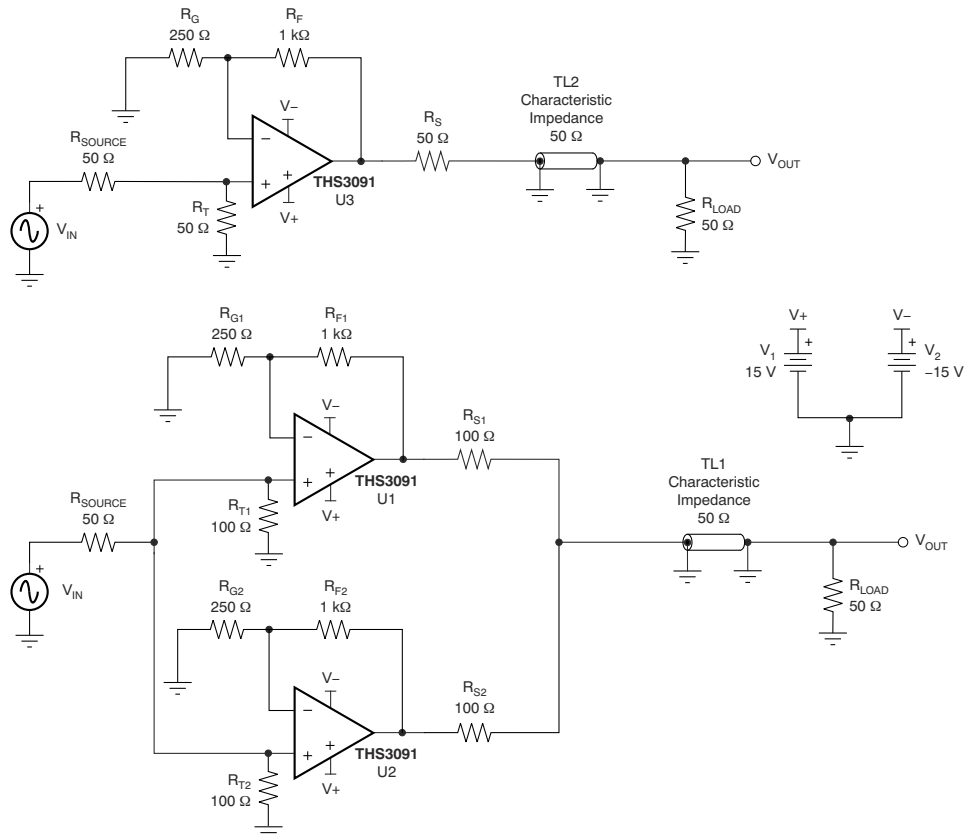
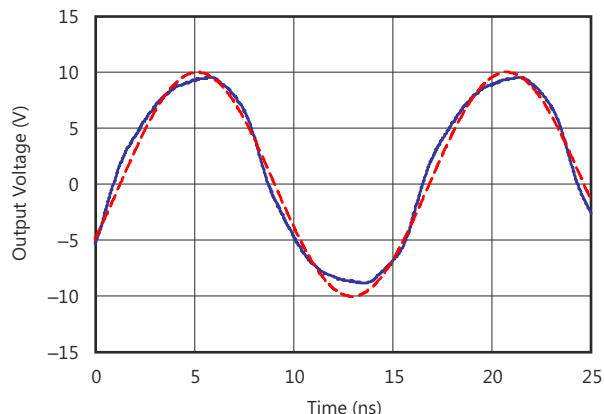
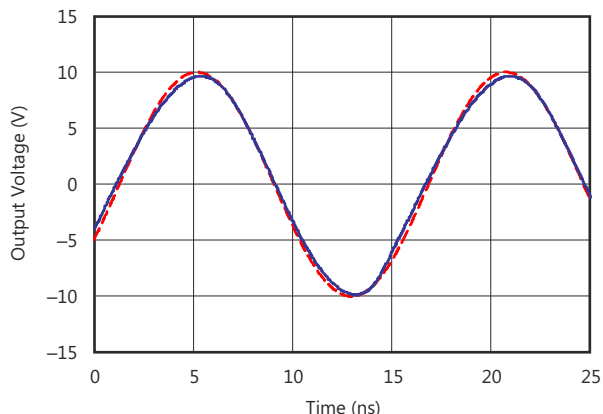

図 9-1. Reference THS3091 and THS3091 Load Sharing Test Configurations
Figure 9-4. 64-MHz Sine Wave Output (Gain = 5 V/V, Signal Amplitude Referred to Amplifier Output), Single THS3091 Circuit Configuration
Figure 9-5. 64-MHz Sine Wave Output (Gain = 5 V/V, Signal Amplitude Referred to Amplifier Output), Two THS3091 Amplifiers in Load Sharing Configuration
The fundamental concept of load sharing is to drive a load using two or more of the same operational amplifiers. Each amplifier is driven by the same source. 図 9-1 illustrates the schematic for this design. This concept effectively reduces the current load of each amplifier by $1/N$, where N is the number of amplifiers. For further details on the design and performance of this circuit, see the Reference Design for Implementation of the Load Sharing Concept for Large-Signal Applications.
As shown in Figure 9-1 for example, in a two-amplifier load sharing configuration with matching resistance driving a resistive load (RL), each series resistance is $2 \times R_L$ and each amplifier drives $2 \times R_L$. A convenient indicator of whether an op amp will function well in a load sharing configuration is the characteristic performance graph of harmonic distortion versus load resistance. Figure 7-9 and Figure 7-10 show more information. Such graphs can be found in most of TI's high-speed amplifier data sheets. These graphs can be used to obtain a general sense of whether or not an amplifier will show improved distortion performance in load sharing configurations.
Figure 9-1 shows two test circuits: one for a single THS3091 amplifier driving a double-terminated (50-Ω cable), and one with two THS3091 amplifiers in a load sharing configuration. In the load sharing configuration, the two 100-Ω series output resistors act in parallel to provide 50-Ω back-matching to the 50-Ω cable.
Figure 9-4 and Figure 9-5 show the 64-MHz sine wave outputs of the two configurations from Figure 9-1. While the single THS3091 output is clearly distorted in Figure 9-4, the output of the load sharing configuration in Figure 9-5 shows only minor deviations from the ideal sine wave.